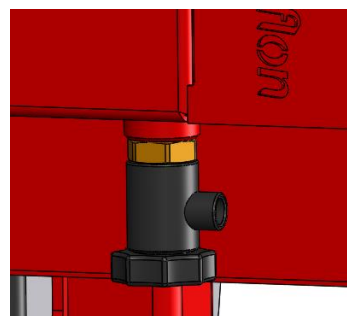

Figure: 7
- Place the vacuum lifter in the vertical position, open both water drain taps at the bottom of the buffers (see figure 7) to allow condensation water to drain out of the buffers. When no more water runs out, close the valves.